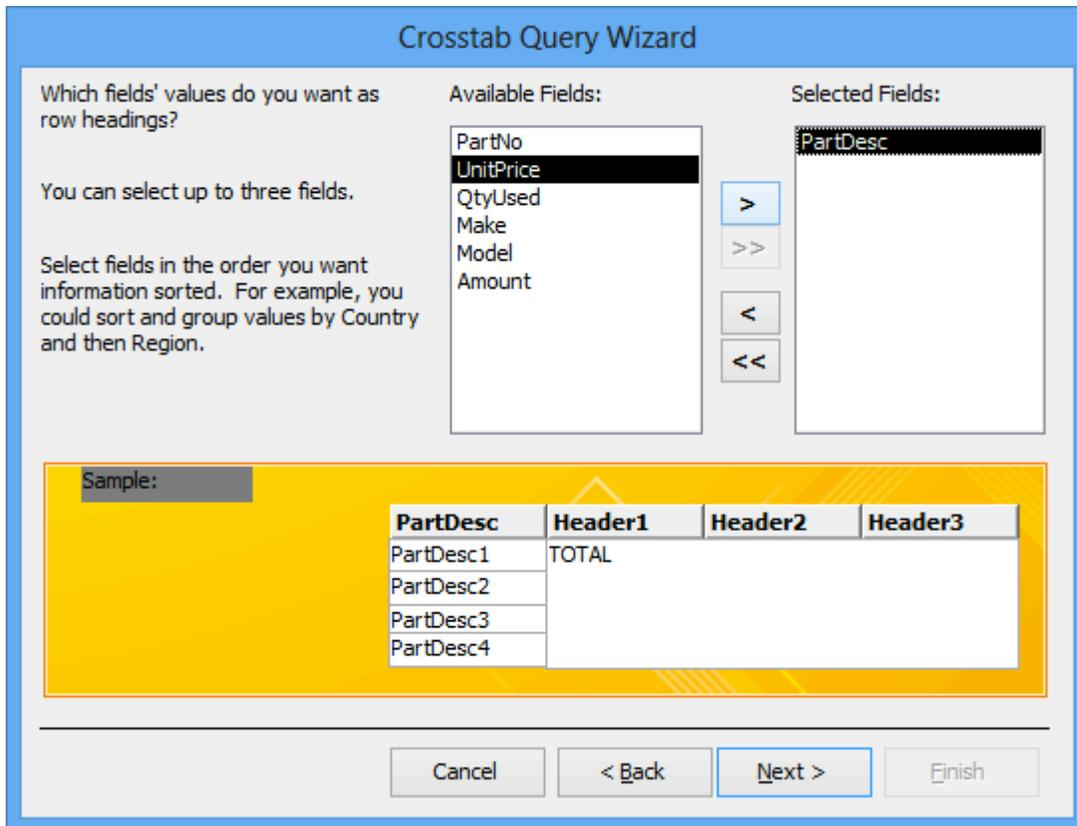

Figure 34: Select *PartDesc* as the Row Heading
3. Select Fields for Row Headings: In the next window, select *PartDesc* as the field for the row heading (Figure 34). Click the **Next >** button.